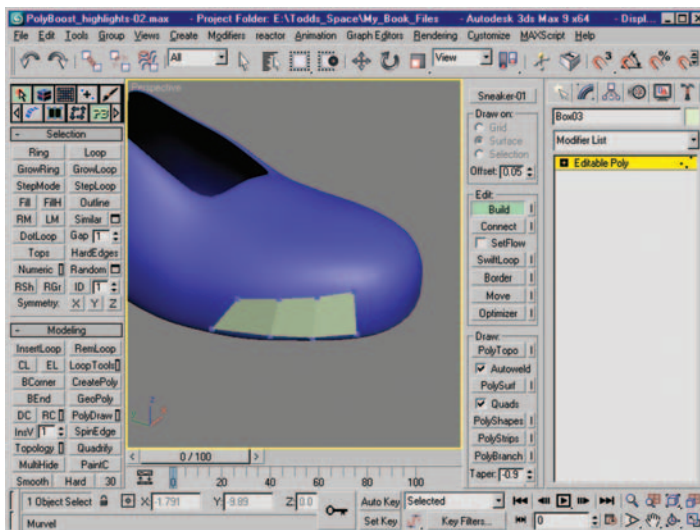

Figure 12.24 *Additional polygons created with the Build tool active.*
28. Do not deactivate the tool. Continue to build new polygons by clicking on one of the existing verts and then creating the additional vertices needed to create each new polygon shape. Figure 12.24 shows additional polygons created with the Build tool.